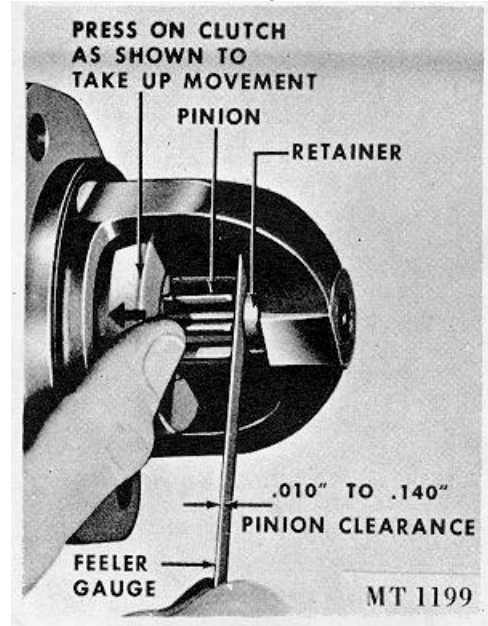

Fig. 13 Checking Pinion Clearance
4. Push the pinion back towards commutator end to eliminate any overtravel. Then measure the distance between the pinion stop and pinion. The clearance should be .01 to .14, Fig. 13.